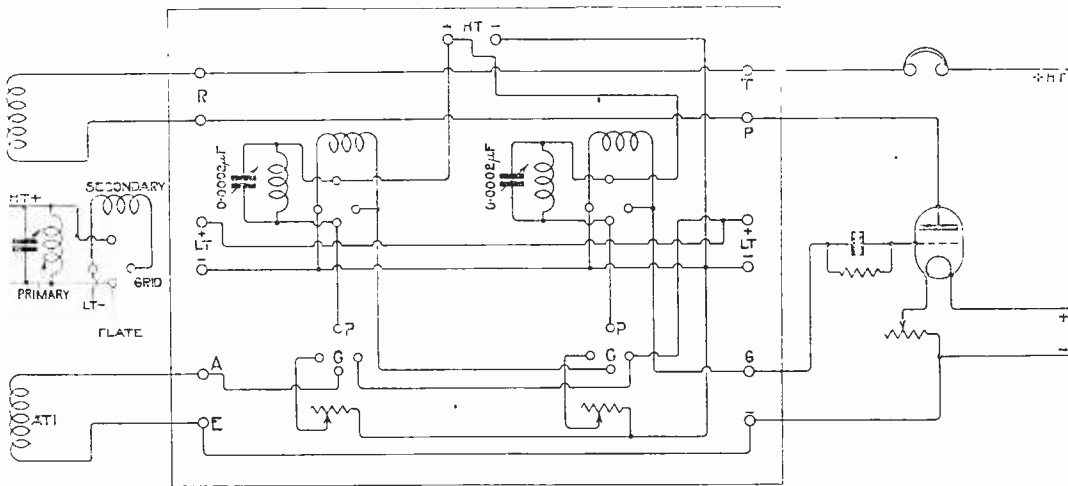

Fig. 2.
(1) A suitable diagram is given in Fig. 2, page 72, in the issue of October 14th, 1922. (2) As your open aerial is rather poor, you will probably find no very great decrease in signal strength with the use of a frame aerial, it being borne in mind that one can take advantage of the directional properties of the frame.
valve unit which he has by him, and (2) Asks for a diagram of connections, using certain components. (1) and (2) See Fig. 2. Suitable values are indicated in the sketch.
(1) The lay-out is quite suitable from the point of view of ease of wiring and arrangement of apparatus. We do not recommend the wiring of a Dewar type switch for the purpose of connecting or disconnecting coils in the aerial and closed circuits. When it is desired to receive short wave telephony, we suggest you use a three-coil holder, but use coils having a small inductance. The complication and the loss of signal strength occasioned by the inclusion of switches in the aerial and closed circuits is not accompanied by any great gain. (2) Suitable diagrams are given in many recent issues, together with suitable values for the condensers. (3) If desired, a small flash lamp may be used in series with the H.T. battery. The dry cells should be well insulated at all times, and they should not be kept in a damp place. It is as well to disconnect the various units when they are not in use. In the event of a short circuit the flash lamp will burn out, and this will to some extent protect the battery. If you wish to protect the accumulators from short circuits, we suggest you use a small fuse. Suitable fuses may be purchased from several of the manufacturers who advertise in this journal.
"RADIO" (Stourbridge) refers to the diagram Fig. 2, page 780, September 16th issue, and asks (1) Is the high frequency intervalve transformer properly connected when it is desired to use a plug-in type transformer. (2) May a variable 0.005 mfd. condenser be used in place of the 0.001 mfd. fixed condenser shown in the diagram. (3) May the reaction coil have the same number of turns as the aerial coil, or will the results be poor if the number of turns is a little different. (4) Is a Vernier condenser suitable for use across the primary of the high frequency transformer.
(1) As the high frequency transformer is of the plug-in type, the L.T. should be connected with the plate; I.P. with + H.T.; I.S. with grid; and O.S. to - L.T. (2) A 0.0005 mfd. variable condenser may be used in place of the fixed condenser if desired. (3) The reaction coil need not have the same number of turns as the aerial coil. In some cases it will require more turns, and in others less. The coil could be provided with two or three tappings for this purpose. (4) A Vernier condenser may be used in place of the 0.0001 mfd. condenser shown in the diagram if desired.